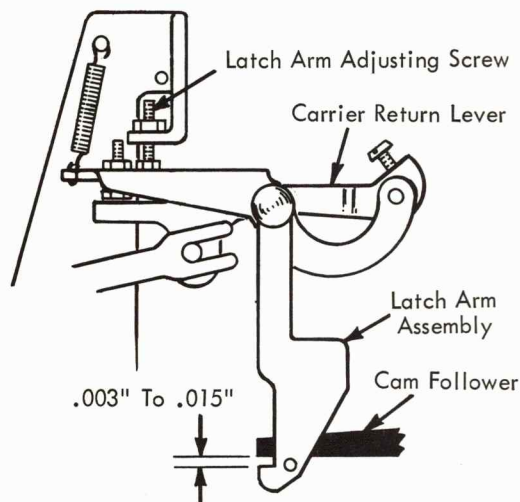

FIGURE 147.4 Latch Arm Height Adjustment
- c. Carrier Return Latch Arm Assembly Adjusting Screw (latch arm height) - With the carrier return cam latched in the rest position, adjust the screw so that the carrier return latch will pass under the cam follower by .003" to .015" (Fig. 147.4).